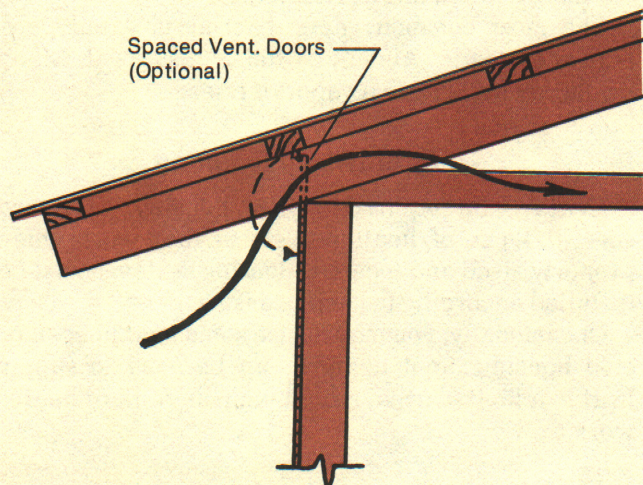

Fig. 10. Example of under eaves air intake.
Air inlets along the back are required to allow the fresh air to enter the building. The air inlets can be openings under the eaves (Fig. 10) or adjustable windows. The air will move across the building and exhaust through the open front. Insulation is recommended under roof or in the ceiling to help to prevent condensation.
**COLD HOUSING**—Ventilation is similar to open housing. In most cases, air moves naturally through the building. Electric fans are occasionally used to aid in the air movement. There must be a place for air to enter the building and to exhaust. Air inlets can be openings under the eaves (Fig. 10) or adjustable windows. Air exhausts can be either open doors or adjustable windows. Insulation in the ceiling or under the roof is recommended to prevent condensation.